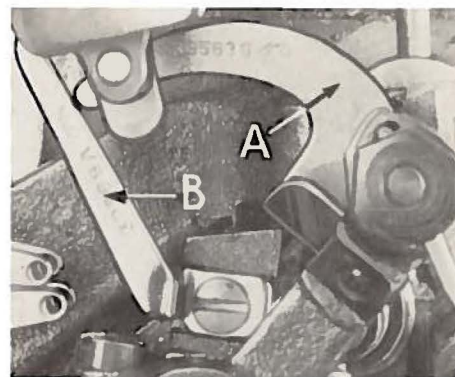

Fig. 4
If needle thread cam pull-off (A, Fig. 4) overlaps looper thread pull-off (B), separate by moving looper thread pull-off to back. When re-tightening looper pull-off screw, be sure to take up end play in needle driving arm.